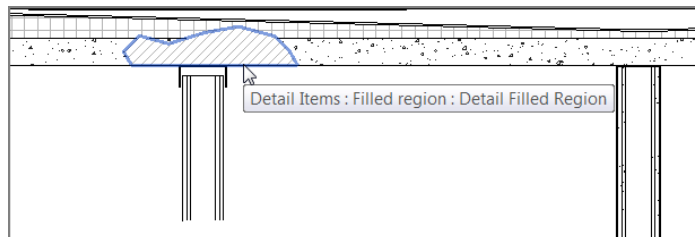

FIGURE 12.67: Excluding an element from the group
1. Hover your cursor over the bottom line of the filled region, as shown in Figure 12.67.
3. Pick the region (see Figure 12.67).